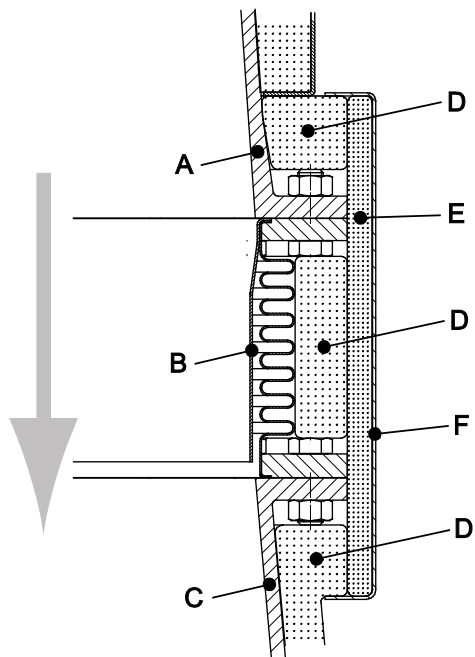

Figure 17
- Bellows at the air-outlet has been properly acoustically insulated by the enginebuilder (see Figure 17).